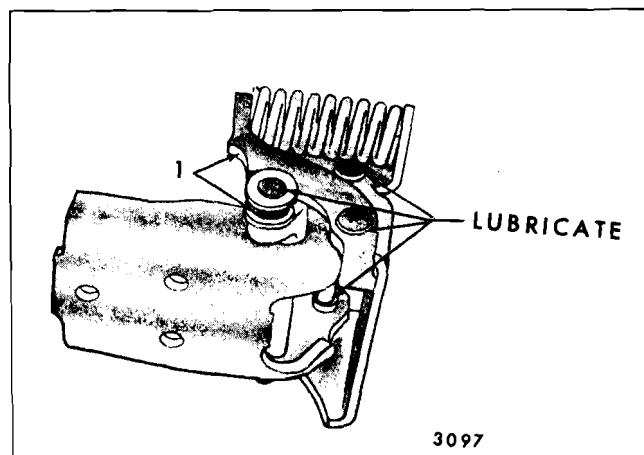

Fig. 2-3—"A-B & C" Styles Front Door Hinge Lubrication
2. Apply a thin coat of white lithium soap grease (Auto-Lube "A", Part No. 1050110, or Spray-Lube "A", Part No. 1050520 or equivalent) to the friction areas of the front door hinge at the points indicated, except detent roller pin which should be lubricated with SAE 30 Motor Oil (Fig. 2-3).
1 in Figure 2-3, would result in a sliding action instead of the desired rolling action.
2. Apply a thin coat of white lithium soap grease (Auto-Lube "A", Part No. 1050110, or Spray-Lube "A", Part No. 1050520 or equivalent) to the friction areas of the rear door hinge at the points indicated except detent roller pin which should be lubricated with SAE 30 Motor Oil (Fig. 2-3).